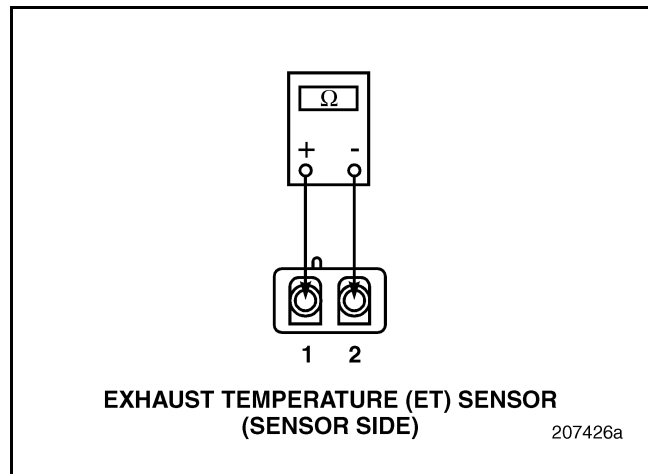

Figure 343
2. Disconnect the Exhaust Temperature (ET) Sensor harness connector.
3. Check for continuity between the terminals of the ET Sensor (see Figure 343).